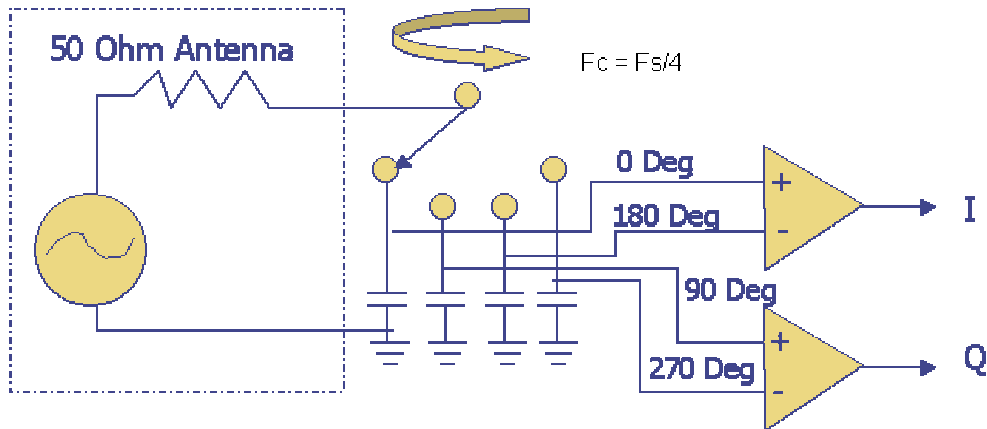

Figure 3 – Single Balanced Quadrature Sampling Detector (QSD)
See Figure 3.
Figure 3—Worst-case spectral display of the SDR-1000 transmitter during two-tone intermodulation distortion (IMD) testing on HF. The worst-case HF third-order product is approximately 26 dB below PEP output, and the worst-case fifth-order is approximately 37 dB down. The transmitter was being operated at 100 W output at 1.85 MHz.
The SDR-1000 incorporates a novel Quadrature Sampling Detector (QSD), which offers exceptional dynamic range as well as performing the function of a high Q tracking filter. Figure 3 illustrates a simplified version of the detector. It may be thought of as a rotary switch that rotates at the carrier frequency rate. Each of the four capacitors samples (or integrates) the RF signal for 25% of the carrier period at intervals of  $0^\circ$ ,  $90^\circ$ ,  $180^\circ$ , and  $270^\circ$ . By differentially summing the  $0^\circ$  and  $180^\circ$  signals and the  $90^\circ$  and  $270^\circ$  signals, we can generate the in-phase (I) and quadrature (Q) signals respectively. With I and Q, we can demodulate or modulate any type of signal. Not only is the carrier mixed to DC by the sampling process, the RC network formed by the antenna impedance and the sampling capacitors forms a commutating filter with a bandwidth of  $1/(\pi \cdot n \cdot R \cdot C)$  (where n is equal to the number of sampling capacitors).
The SDR-1000 uses a dual 4:1 MUX/DEMUX in a double-balanced QSD circuit that offers a 6dB improvement in large signal handling over the single balanced circuit shown in Figure 3. Using 5V parts, the QSD is capable of handling 10Vpp differential signals before going into compression. The double-balanced circuit also helps to suppress even-order harmonics. This large-signal handling capability allows more flexibility in gain distribution that is traditionally found in direct conversion systems. Gain can be placed in front of the QSD to improve the noise figure and reduce local oscillator radiation without significantly compromising large-signal handling capability.